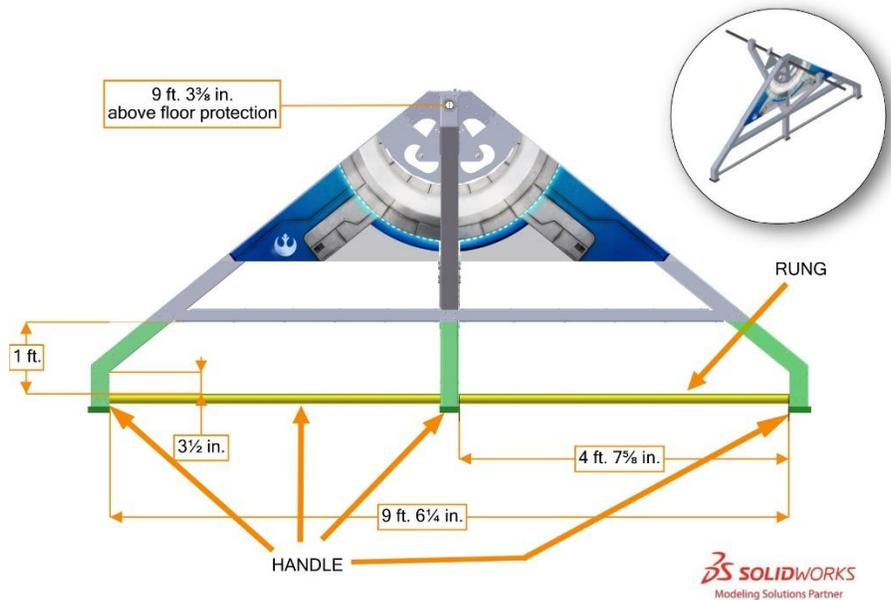

Figure 3-8 GENERATOR SWITCH
Each SHIELD GENERATOR has one (1) GENERATOR SWITCH per ALLIANCE. A GENERATOR SWITCH is a 7 ft. 6 in. (~229 cm) wide, 10 ft. 1½ in. deep (~309 cm), and 4 ft. 6 in. (~137 cm) tall assembly that swings from the top of the SHIELD GENERATOR. Each GENERATOR SWITCH has a HANDLE. The HANDLE is a structure that consists of a RUNG and the supporting structure below the horizontal beam of the GENERATOR SWITCH. A RUNG is a 1¼ in. schedule 40 aluminum pipe (1.66 in. (~4 cm) outer diameter) with two (2) exposed 4 ft. 7⅝ in. (~141 cm) long sections. The amount of clearance above the RUNG varies from a minimum of 3½ in. (~9 cm) to a maximum of 12 in. (~30 cm). For safety, foam corner cushions line the lowest edges of the HANDLE. The HANDLE (green and yellow) and RUNG (yellow) are highlighted in Figure 3-8 for clarity.